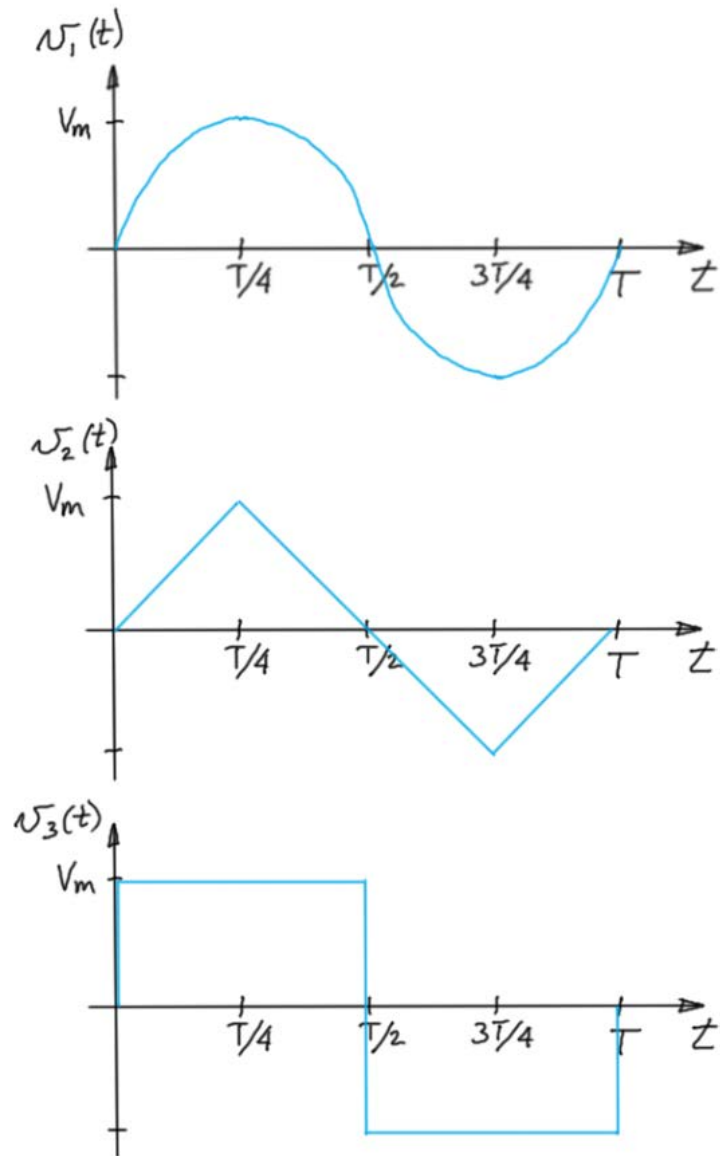
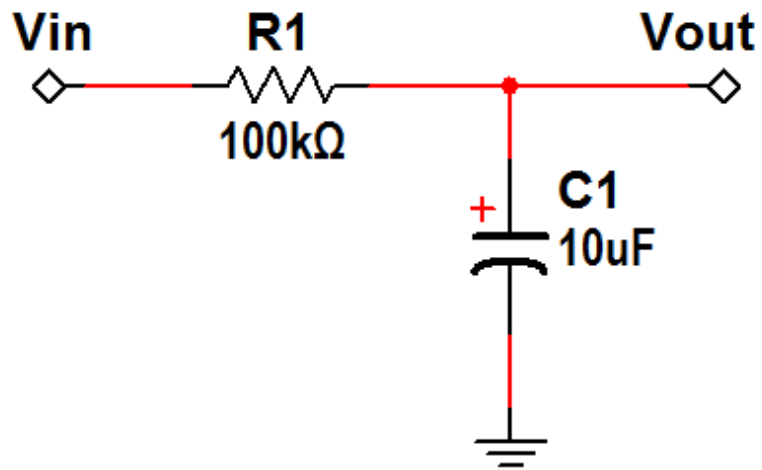

Figure 8.1: Waveforms for Problem 8.1
Figure 8.2: RC circuit to extract average value of a waveform.
1. Plot the half-wave rectifier output and full-wave rectifier output for each of the three standard waveforms shown in Figure 8.1 on page 109.
1. Create the half-wave rectified and full-wave rectified versions of the three standard waveforms of Figure 8.1 on page 109 using the following approach:
1. Create the half-wave rectified and full-wave rectified versions of the three standard waveforms of Figure 8.1 on page 109 with the arbitrary waveform generator on A00; use 200 kS/s for the sampling rate. Display this signal on the oscilloscope using A10. Extract the average value of the waveform using the RC circuit shown in Figure 8.2 on page 110 and display the output of this circuit on A11.